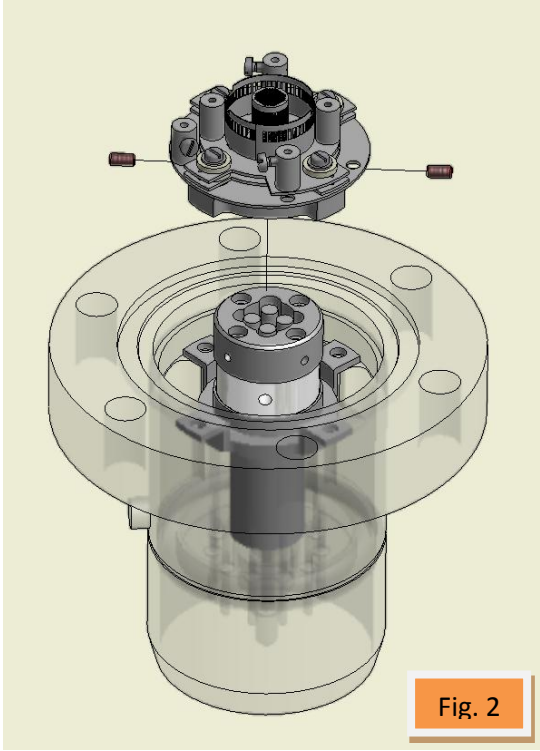

Fig. 2
5. Carefully withdraw the source assembly from the filter, Fig.2.